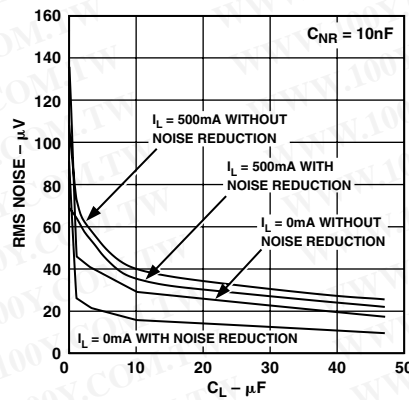

Figure 18. RMS Noise vs. C_L (10 Hz-100 kHz)
A noise reduction capacitor (C_{NR}) can be used to further reduce the noise by 6 dB–10 dB (Figure 18) low leakage capacitors in 10 pF–500 pF range provide the best performance. Since the noise reduction pin (NR) is internally connected to a high impedance node, any connection to this node should be carefully done to avoid noise pickup from external sources. The pad connected to this pin should be as small as possible and long PC board traces are not recommended.